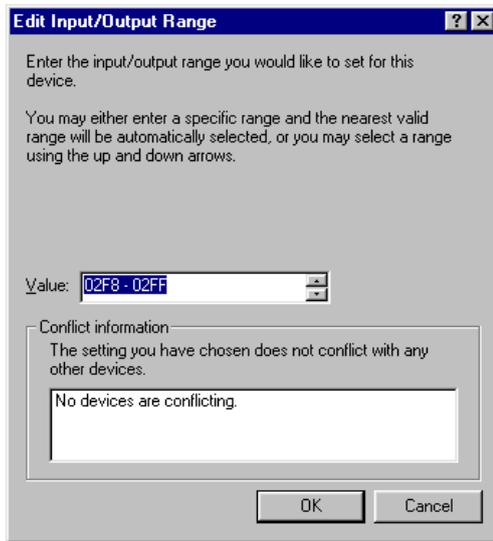

Figure 2-4
- From the **Edit Input/Output Range** dialog box, select the I/O port address to match the board setting in the "**Value**" drop-down box. (see **Figure 2-4**)